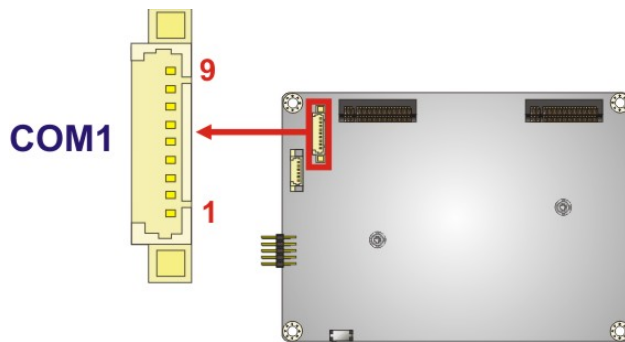

Figure 3-13: RS-232 Serial Port Connector Location
- CN Location:** See **Figure 3-13**